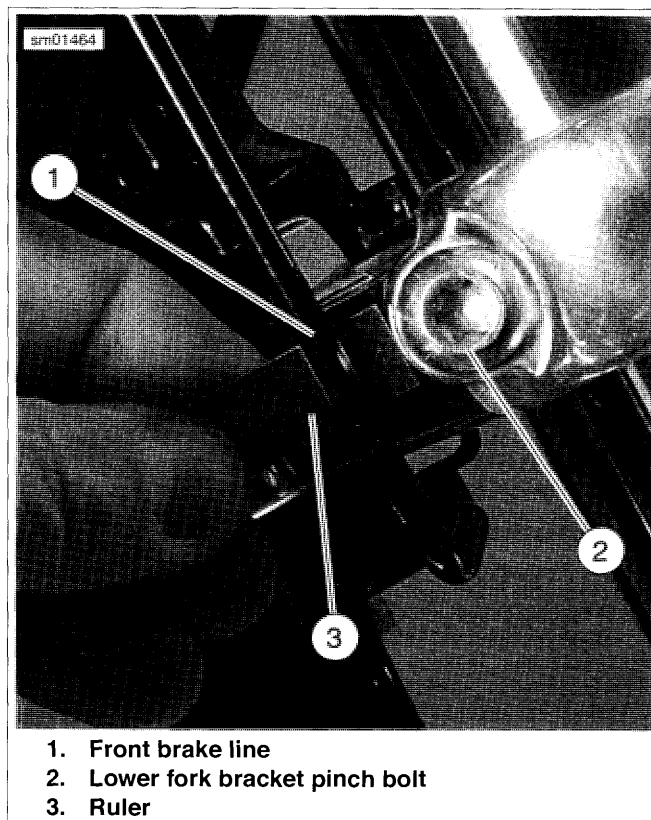

Figure 2-125. Measuring Front Brake Line Clearance
- Single front disc models:** See Figure 2-125. Measure distance between front brake line metal tubing and lower fork bracket adjacent to pinch bolt. Move brake line assembly forward or back until there is a 1/4 in. (6.35 mm) gap between brake line and lower fork bracket.